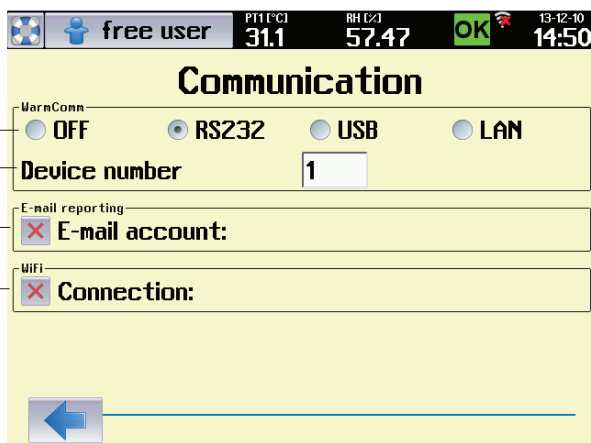

Fig. 30
- (1) Communication interface for WarmComm4
- (2) Identification number of the device
- (3) E-mail account activation, see 8.3.7.2.
- (4) Wifi options
By clicking the push button (3), see Fig. 30, you will display a list of available access points.
- (1) Access point which the connection has been established with.
By pushing the push button (2), Fig. 30, there will be displayed a screen for e-mail account login.